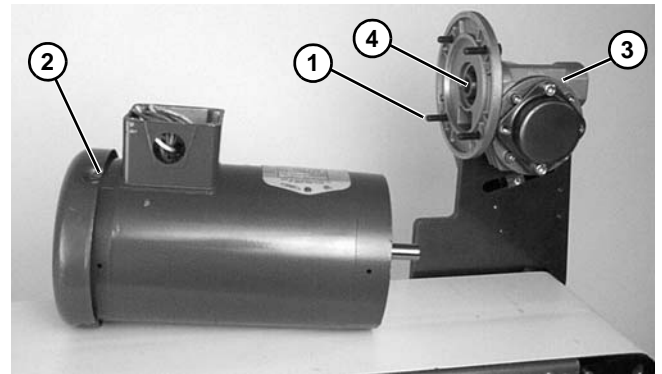

Figure 35
4. Remove four screws (Figure 35, item 1). Detach motor (Figure 35, item 2) from gear reducer (Figure 35, item 3). Retain motor output shaft key (Figure 35, item 4).